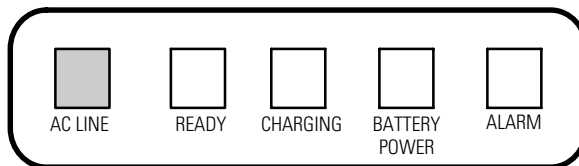

Figure 5. Front Panel Indicators
- The AC LINE indicator illuminates (see Figure 5).